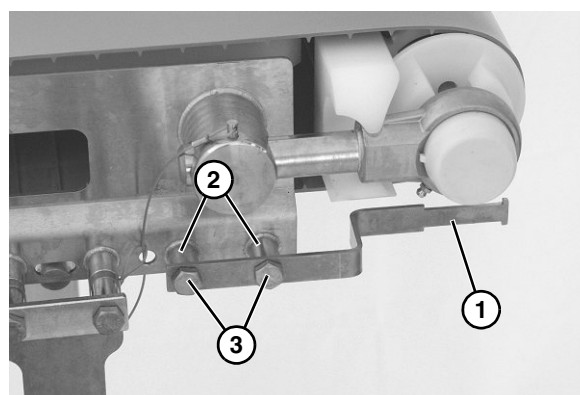

Figure 27
1. Loosely bolt limiter support plate (Figure 27, item 1) to conveyor frame stand off posts (Figure 27, item 2). Repeat on opposite side.
3. Adjust limiter to within 1/32" from belt, and tighten screws (**Figure 27, item 3**).